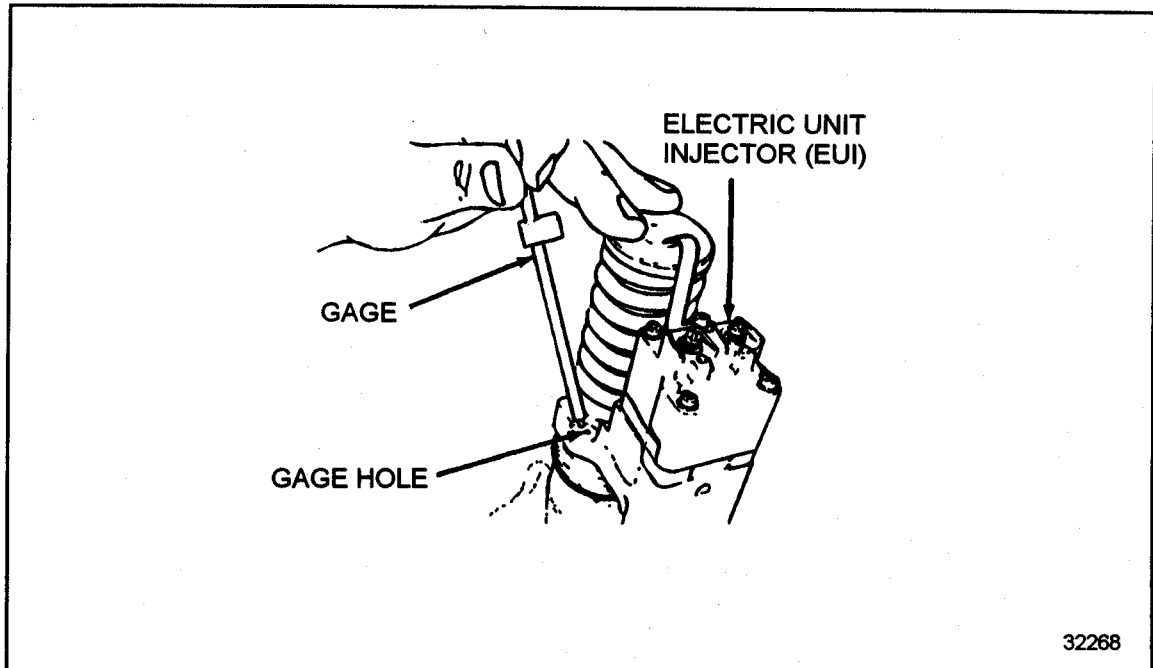

Figure 12-3 Using Timing Gage on DDEC II, DDEC III, and DDEC IV
The fuel injector height is measured using the required Injector Height Gage as listed in Table 12-2. On engines equipped with a Jake Brake[®], move the handle on the injector height gage to the alternate position, 90 degrees to the shank. A height gage locating hole is provided in the injector body on the machined surface contacted by the injector clamp near the solenoid. See Figure 12-3.
12. Adjust the fuel injector height for the engine models in parentheses by placing the small end of the height gage in the hole provided in the fuel injector body, with the flat of the gage toward the fuel injector plunger. See Figure 12-3. The injector height settings for Series 60 engines are listed in Table 12-2.